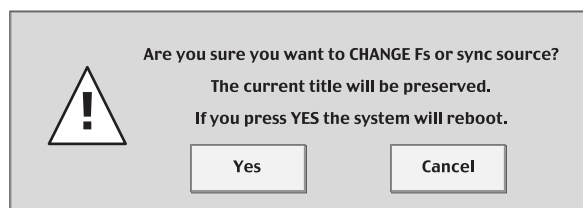

Figure 5
- 5 If you have changed the sample rate by selecting a new one and then pressing the CHANGE button, the following dialog will appear: (See Figure 5)